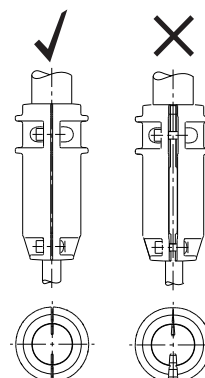

Fig. 1 Gap between coupling halves
2. Install the screws (28), washers (32) and nuts (36).
3. Lubricate and tighten the nuts (36) to the specified torque. See section 4.1 *Torques*.
4. Install the cylindrical pin (10) in the pump shaft (51).
6. Lubricate and tighten the screws (9), but leave loose. See section 4.2 *Lubricants*.
7. Check that the gaps on either side of the coupling halves are equal. See fig. 1.